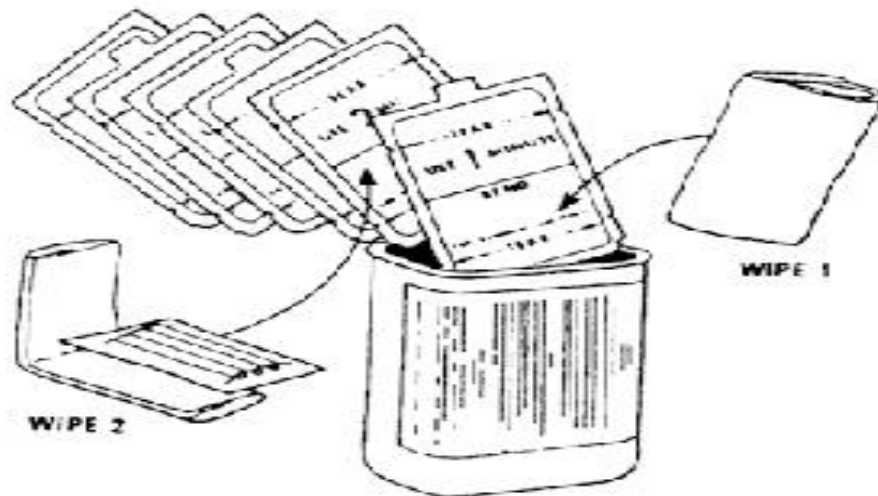

Figure E-77. Skin decontamination kit.
3. Decontaminate your hands with decontaminating wipe I (figure E-77).